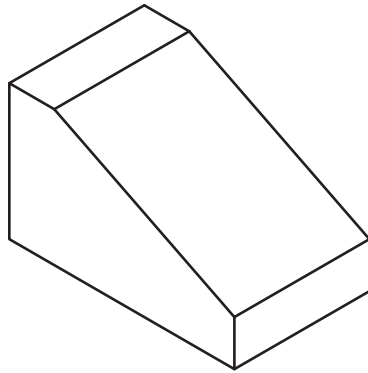

Fig. 38-4
4. Alter the block so that it looks similar to the one in Fig. 38-4 using the **LINE**, **BREAK**, and **ERASE** commands.